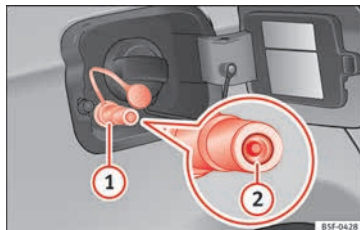

Fig. 233 Tank flap open: gas filler mouth ①, filler mouth retainer ②
- Remove the plug from the gas filler mouth » **Fig. 233 ①**.